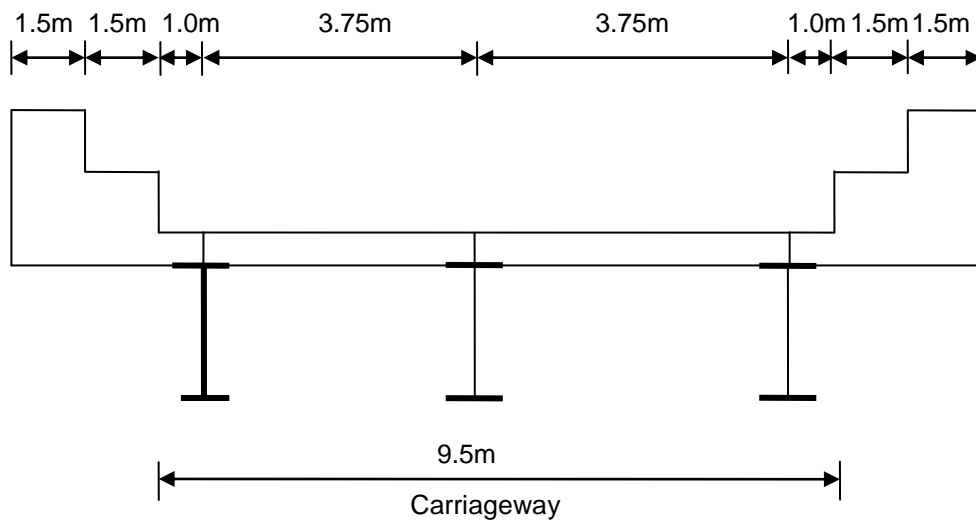

Figure 2 : Cross-Section of Carriageway
- (b) A solid slab highway bridge, with cross-section as shown in Figure 2, has a right (total width) of 12m, a slab thickness of 225mm and skew of 0° . The specified highway loading is HA and 45 units of HB. The nominal superimposed dead load is equivalent to a uniformly distributed load of 2.5 kN/m^2 , and the nominal parapet loading is 3.5 kN/m along each free edge. Calculate the total ULS loads in edge girder and inner girder (assume dead load as 50kN). Calculate the moments for HA loading for edge and inner girder and determine the maximum moment of HB loading with the following data :